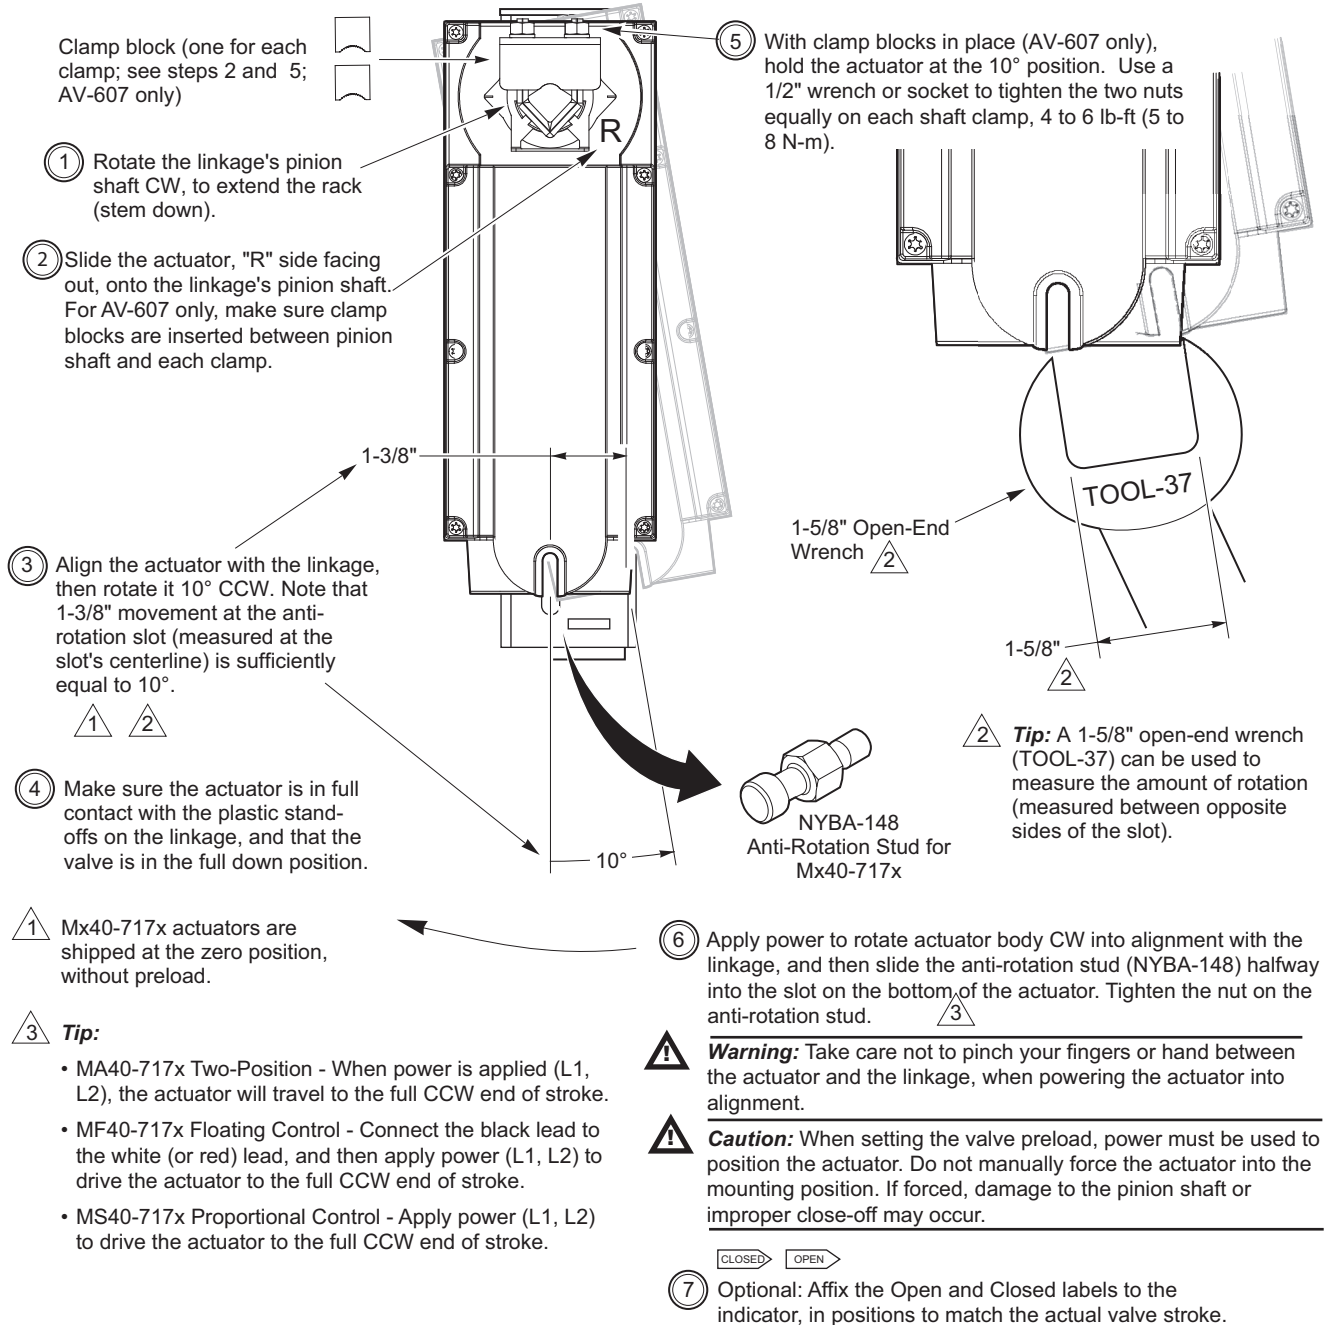

Figure-7 Mounting Mx40-717x and Setting Up Actuator/Linkage/Valve Assembly
- a. Install the actuator onto the linkage and valve, and set up the assembly, according to Figure-7. Use the two clamps supplied with the linkage.